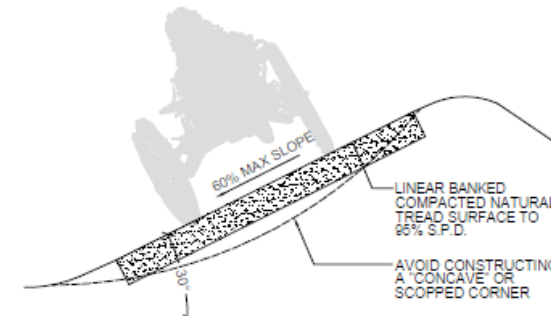

Figure 5 - aMTB Berm
- Due to the limited riding dynamics and turn radius of aMTB equipment, flat and outsloping corners should be avoided when possible during ascending and descending. Banked corners allow physics to help the aMTB complete the turn faster when descending. Small berms and extra material on the outside of climbing turns (even to partial tread width) can help aMTB achieve tighter turning radius, reducing the need for 2-point turns on switchbacks (Refer to Figure 5).